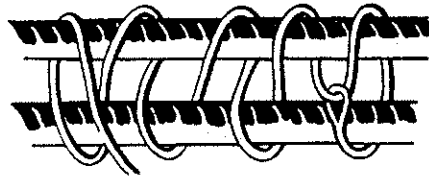
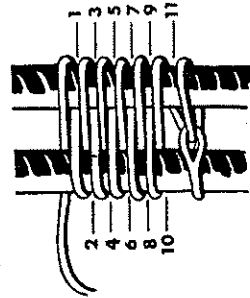

FIG. 1
FIG. 2
This knot is used to shorten a rope that is fastened at both ends. Take up the slack as shown in figure 1. Make an underhand loop as shown at B in figure 2 and slide it over the B1 bight and pull tight. Do the same to the other end to complete the knot. The sheepshank is only a temporary knot as it stands. But it can be made more permanent by adding a second half hitch to each end as shown in figure 3.
- Racking seizing is used to lash together two parallel ropes. Start with a timber hitch in the seizing material and then wrap it around the ropes in a figure eight pattern as shown in figure 1. Make as many turns as necessary. When this is done, bring the turns together as shown in figure 2. Now begin winding round and round back toward the eye splice, laying the lashing into the spaces between the turns of the first set as indicated by the numbers in figure 2. The seizing may be finished by making trapping turns and fastening with a clove hitch.
length, figure 1 yard of rope for each inch of the combined diameter of the spars. For example, when you are lashing 3-inch and 4-inch timbers together, you will need 7 yards of rope.